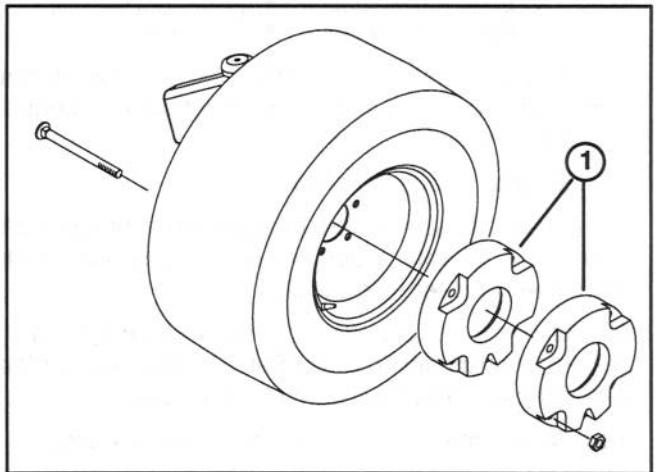

**Figure 7**
1. To assure cutting unit hoses are properly protected, make sure protective sleeves (Fig. 7) are covering entire length of hoses to reel motor fittings.